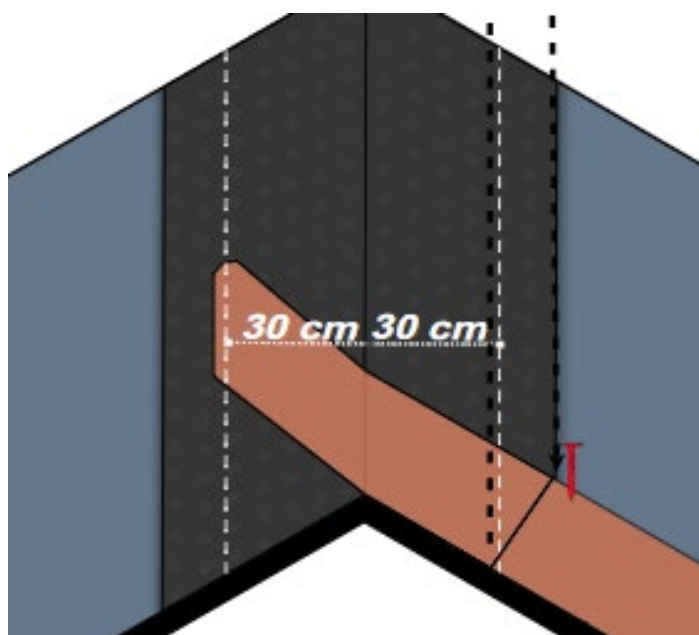

Fig. 12 – Shingles installation at valleys
- As for the roof valleys, prepare a band of bituminous membrane R-evolution N about 100cm wide, to ensure its waterproofing - Fig. 12. Install the starting row making it rise 30 cm above the valley line. Fix the starting row by nail, up to and beyond 30 cm from the valley line. Place a strip of Bitustick to secure the shingle beyond the 30 cm from the valley line. Once the shingles have been placed on the valley, it is good practice to cut them following a line parallel to the valley line at a distance of 30 cm from the valley line - Fig. 12.